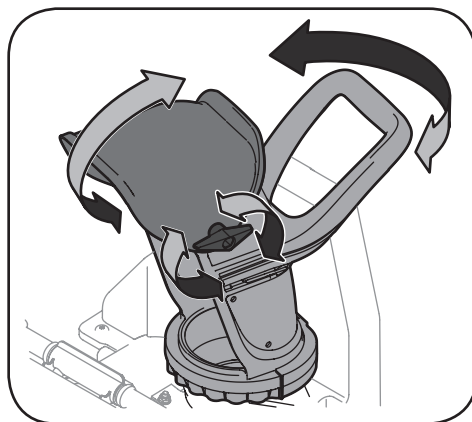

Figure 3-10
2. Tighten the wing knob on the upper chute making sure the carriage bolt on the inside of the discharge chute is correctly positioned. Refer to Figure 3-10.
3. To adjust the direction that the snow will be thrown, use the handle on the upper discharge chute to control the direction of the discharged snow. Refer to Figure 3-10.